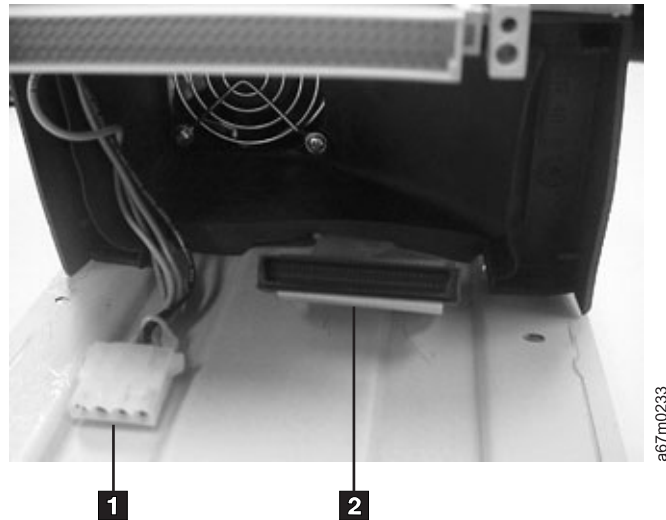

Figure 123. Unplugging Power and SCSI Cables
- ___ 6. Being careful to ensure that the 422 cable is guided over the rubber shroud, slowly pull out the drive far enough to disconnect the power **1** and SCSI cables **2** from the rear of the drive (see Figure 123 on page 281).